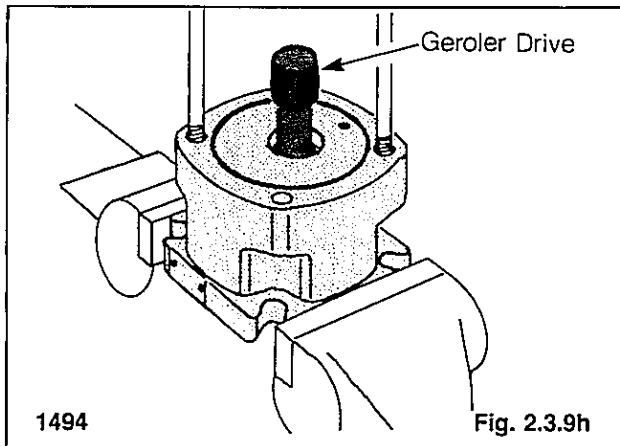

Fig. 2.3.9h
12. Install the geroler drive in the bearing housing (fig. 2.3.9h). Install the longer splined end of the shaft into the bearing housing.